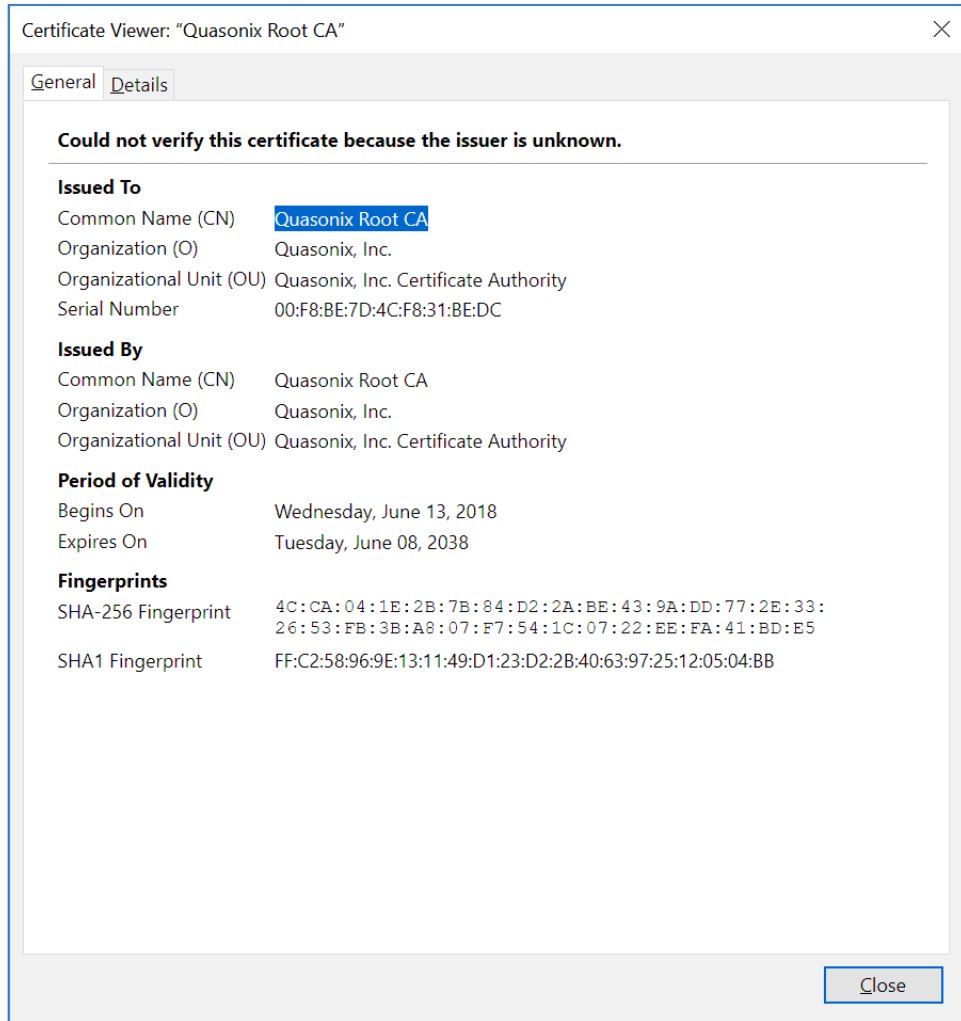

Figure 334: Firefox Certificate Viewer-Quasonix Root CA
8. Click on the View button to examine the certificate. It should match the one shown in Figure 334.